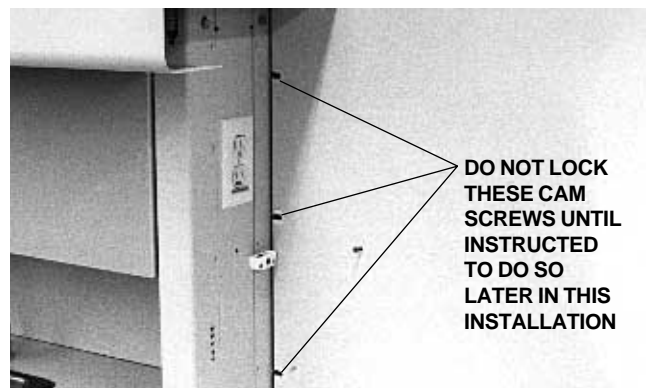

FIGURE 15
- Use a Phillips screwdriver to close the three cam lock screws on the right side of the back. Do not lock the three cam lock screws on the left side of the back (see Figure 15). Locking the cam lock screws will make it difficult to install the upper unit in the middle position.
3. Close the three cam lock screws on the left side of the back (see Figure 15 on page 6).